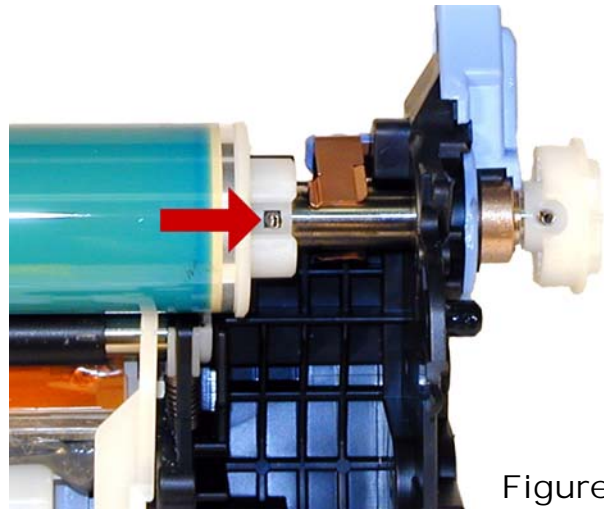

Figure 19
7) With the wire cutters, carefully pry the pin out from the internal drum hub. There is no need to remove the pin from the external drum drive gear. This pin is in tight and is hard to remove. Take your time, and pry not pull the pin out. See **Figure 19**